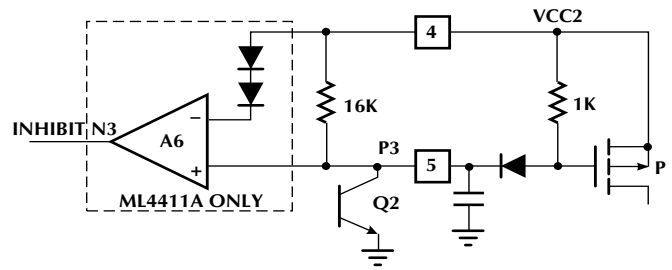

Figure 13. Alternate cross-conduction prevention for ML4411A
Since the output section in a full bridge application consists of three half-H switches, cross-conduction can occur. Cross-conduction is the condition where an N-FET and P-FET in the same phase of the bridge conduct simultaneously. This could happen under two conditions (see figure 13):
- When transitioning from mode 0 to mode A (see table 1) P3 goes from on to off at the same time N3 goes from off to on. If the P3 turns off slowly and N3 turns on quickly, cross-conduction may occur. This condition has been prevented inside the IC on the ML4411A through the addition of comparator A6 on the P3 output (Figure 9). This comparator may cause an oscillation when the N3 switches on due to the capacitive coupling effect described below pulling the P3 pin below VCC2-1.4V. To avoid this, use the circuit in Figure 13.